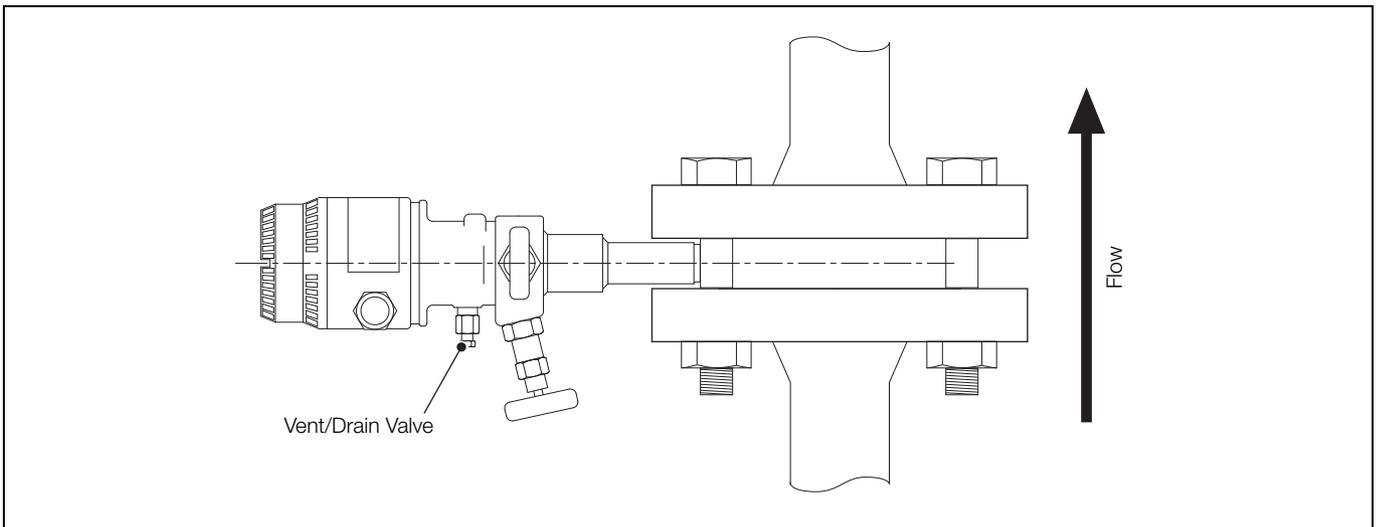

Fig. 2.6 Vertical Pipe Mounting – Gas
- for vertical pipe mounting – gas, refer to Fig. 2.6.